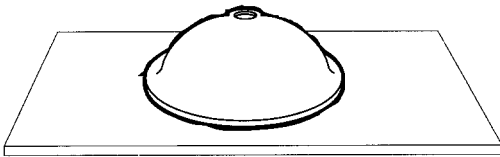

Figure 19
- Position the bowl over the cutout, checking for a tight fit (see Figure 19).